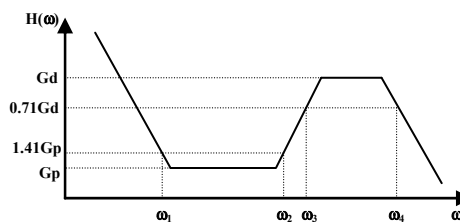

Figure 9 Transfer Function of the Compensation Network
The transfer function of the compensation network, defined as  $H(\omega) = VDR(\omega)/TMO(\omega)$ , is shown in figure 9.
- $C_D \cdot R_I$  determines the corner frequency,  $\omega_2 = 1 / (C_D \cdot R_I)$ , where the differential component starts picking up (see Figure 9), as the frequency goes up.